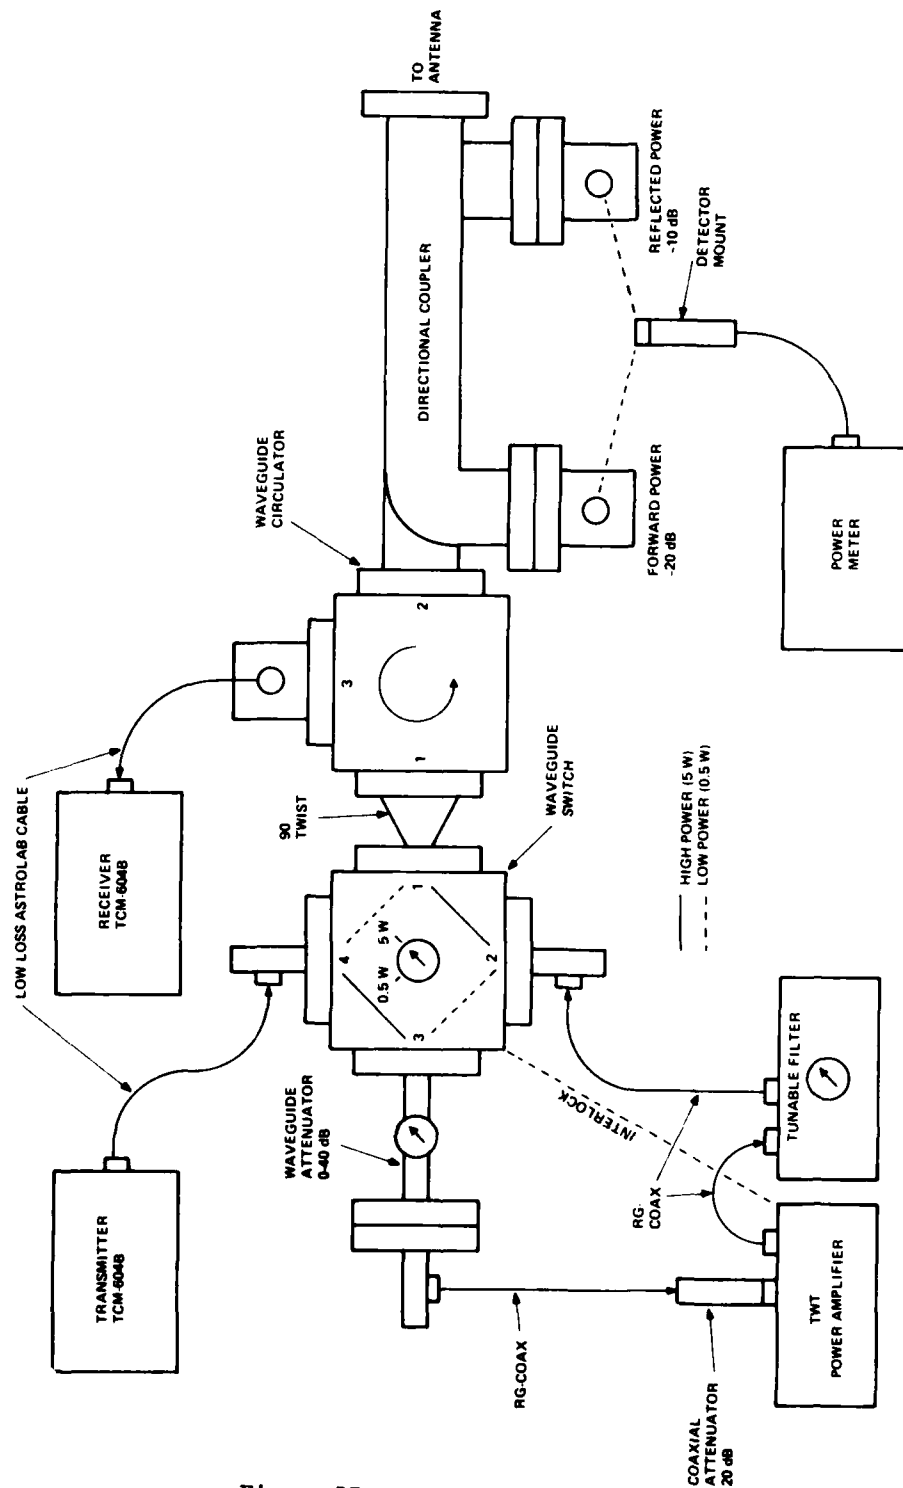

Figure 57. Waveguide Assembly
- (1) Set the transmitter RF power switch to 0.5 W. (See Figure 57.)
- (2) Set the variable amplitude equalizer U-links (located in the baseband module) to the "zero feet" positions (E2 to E14 and E13 to E15).
- (3) Make certain that the transmitter inputs are correctly patched (both baseband and audio). Baseband input level is 1 volt peak-to-peak. (Baseband attenuator should be set at 5 dB.) Audio input level is -5 dBm. (Audio attenuator should be set to 0 dB.)
- (4) Set digital frequency synthesizer thumbwheel switches to the proper link frequency. Switches are located inside the synthesizer module.
- (5) Turn the power supply circuit breaker to ON. The Power Supply ON lamp should illuminate and the power supply FAULT lamp should be off. The synthesizer fault lamp should extinguish within five seconds. The AFC FAULT lamp may not extinguish until transmitter tuning has been performed.
- (6) With the DEVIATION TEST switch ON, check the following control monitor meter readings (The FAULT lamp on the control monitor will be illuminated while the DEVIATION TEST switch is on.):
(7) Turn the DEVIATION TEST switch to OFF.
(8) Switch the AFC switch on the AFC Module to DISABLE. (The fault lamps on the AFC module and control monitor module should illuminate.)
(9) Tune the direct reading frequency indicator to the desired transmitter frequency. Watching the front panel AFC meter on the AFC module, adjust the frequency for a zero center indication.
(10) Switch the AFC switch to the ENABLE position. (All fault lamps should be off.)
(11) Set the power meter (Narda Model 8400) range switch to "X 10".
(12) Connect power meter detector thru a 10 dB coaxial attenuator to the FOREWARD POWER port on the waveguide directional coupler. (See Figure 57.) Correct to watts by multiplying by 1000 (+30 dB), and record the reading.
(13) Connect the power meter detector to the REVERSE POWER port of the waveguide directional coupler. Correct the reading to milliwatts by multiplying by 10 (+10 dB), and record the measurement.